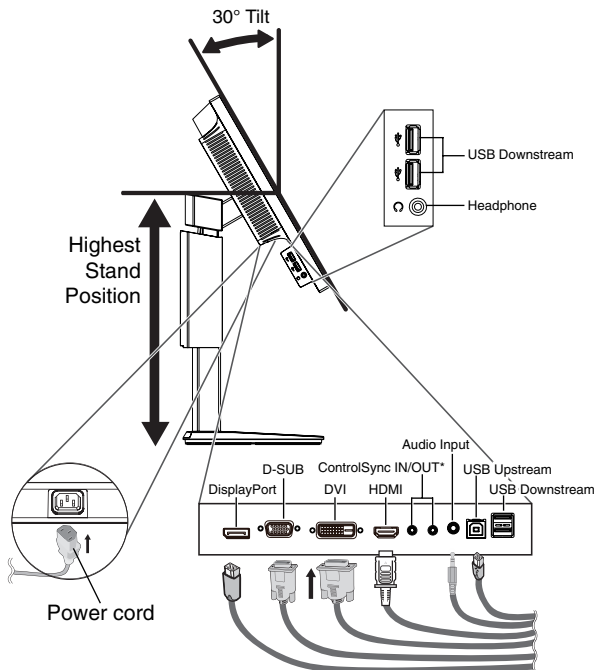
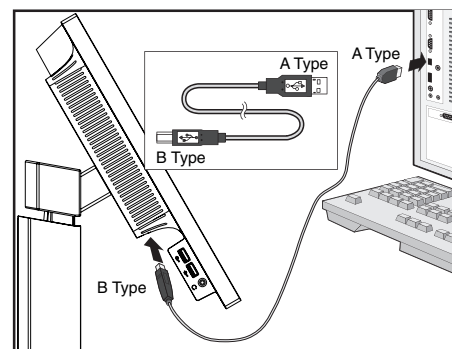

Figure C.1
Figure C.1a
4. Connect all cables to the appropriate connectors (Figure C.1). When using the USB cable, connect the B type connector to the USB upstream port on the right back side of the monitor and the A type connector to the downstream port on the computer (Figure C.1a). If using the cord from a USB device, plug into one of the downstream ports of the monitor.